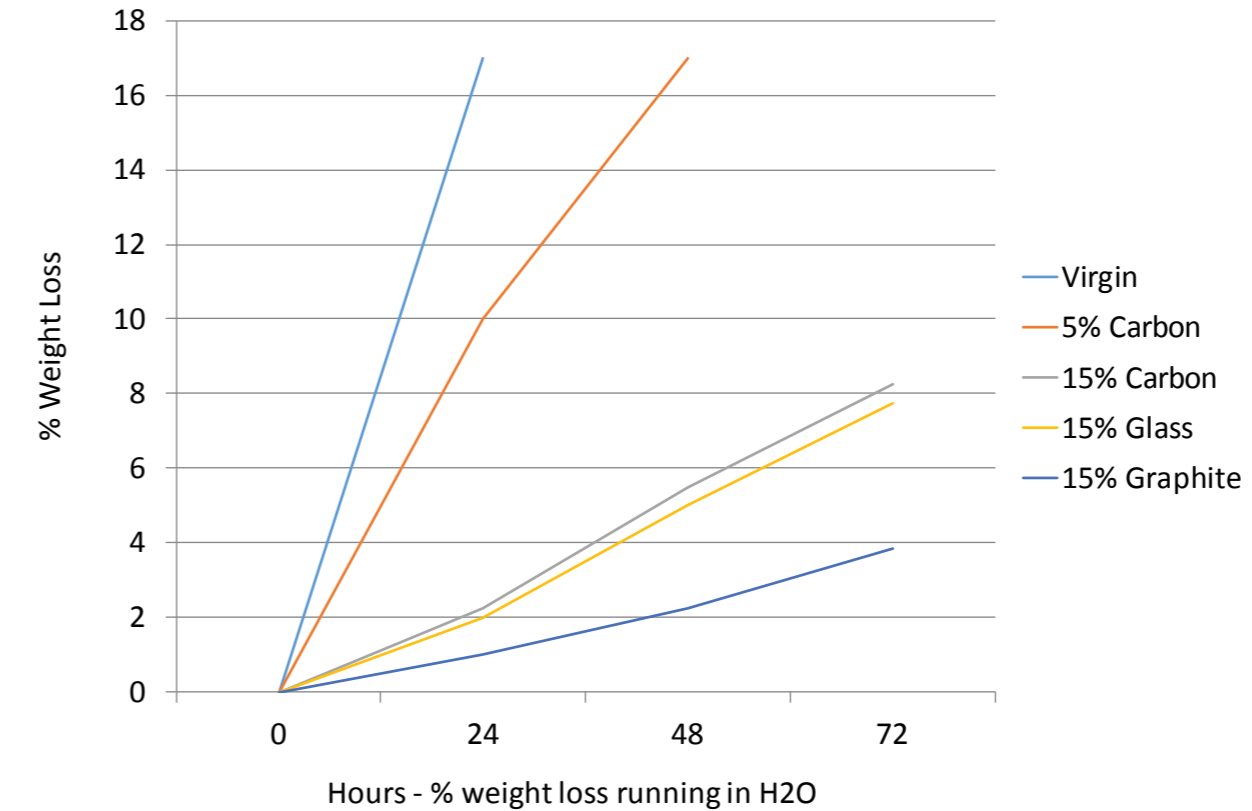

Figure: 3
- Figures 3 and 4 show the rate of wear by weight loss after 12, 24, and 72 hour running intervals. Note: unfilled virgin PTFE was also tested to illustrate effect of filler on wear rate.